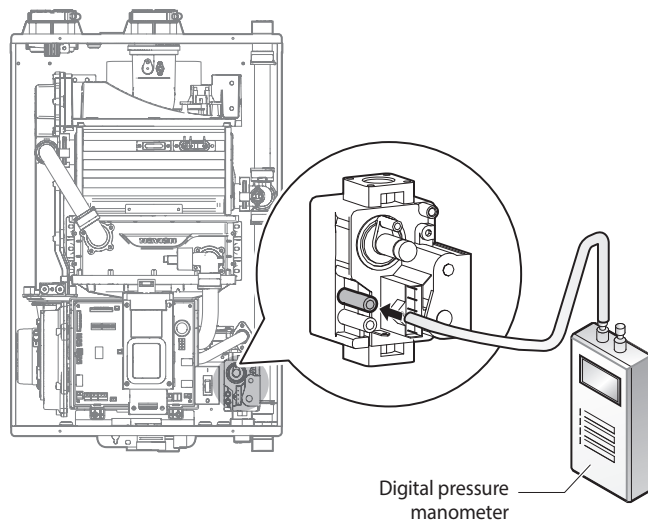

Figure 9. Connect Digital Pressure Monometer
- Open the offset pressure port by loosening the screw two turns as shown in Figure 9.